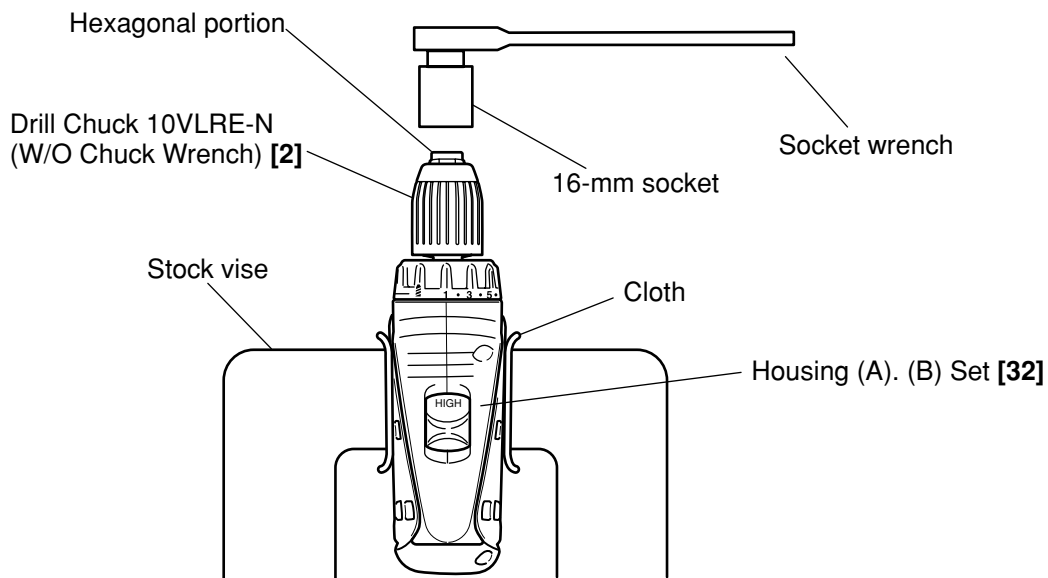

Fig. 4
(1) Removal of the Drill Chuck 10VLRE-N (W/O Chuck Wrench) **[2]** (See Fig. 4.)
- (b) Turn the hexagonal portion at the tip of the Drill Chuck 10VLRE-N (W/O Chuck Wrench) **[2]** counterclockwise with a 16-mm socket wrench to remove the Drill Chuck 10VLRE-N (W/O Chuck Wrench) **[2]** as shown in Fig. 4. If it is difficult to loosen, use a pipe extension or similar tool. Carry out steps (a) and (b) with the main body clamped in the stock vise. It is recommended to fit a piece of cloth between the main body and the vise to protect Housing (A).(B) Set **[32]** from scratching.